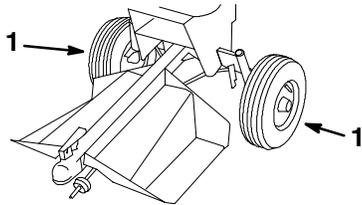

Figure 1
1. Slide a wheel on to each axle and secure with a flat washer and cotter pin (Fig. 1). Install hub caps.